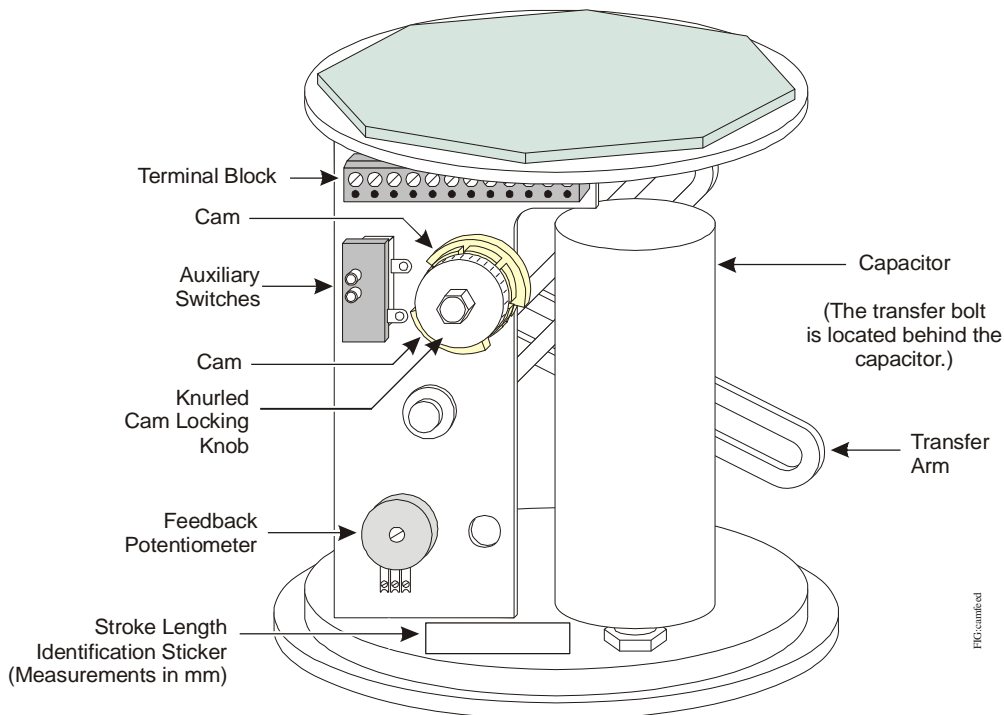

Figure 3: Cam and Feedback Potentiometer Identification
See Figure 3 to locate the stroke length identification sticker to determine the transfer bolt setting and associated stroke length.
1. Use Figure 3 to locate the auxiliary switches, cams, and terminal block.
- c. Rotate the feedback potentiometer clockwise to its stop (Figure 3).
Note: If Potentiometer P2 adjustment is insufficient, adjust the transfer bolt. The transfer bolt is located behind the capacitor (Figure 3). For reference purposes, a scale with numbers that correspond to notches on the transfer lever is located on the surface just below the feedback potentiometer.
- Rotate the feedback potentiometer clockwise to its stop (Figure 3).